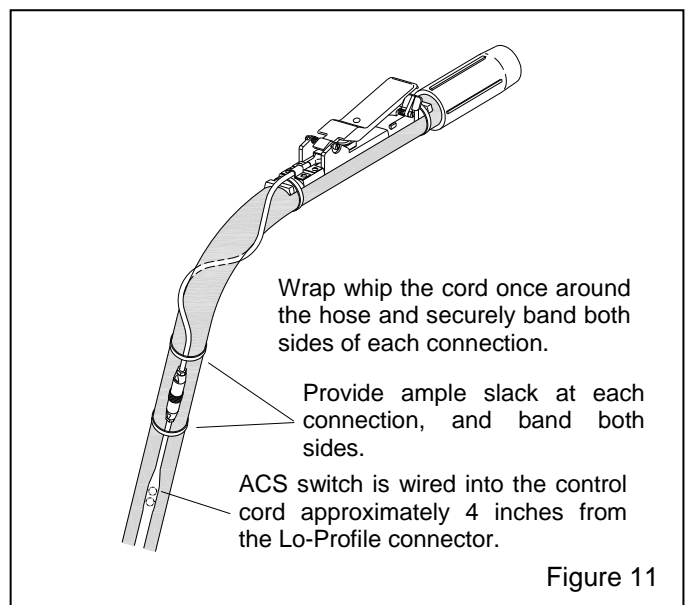

Figure 11
2.4.2.3 Wrap the whip cord from the electric control handle once loosely around the blast hose as shown in Figure 11,
2.4.2.4 Band the cord to the hose on both sides of the cord connections as shown in Figure 11.